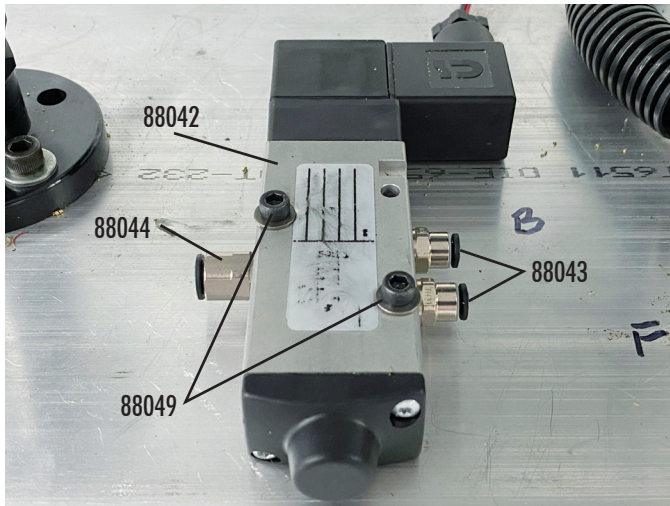

FIGURE 32
- A. Mount the control valve assembly, as shown, onto the base using the (2) 8-32 x 1-1/4" SHCS (P/N 88049) along with the #8 washers (P/N 12060, see Figure 32).